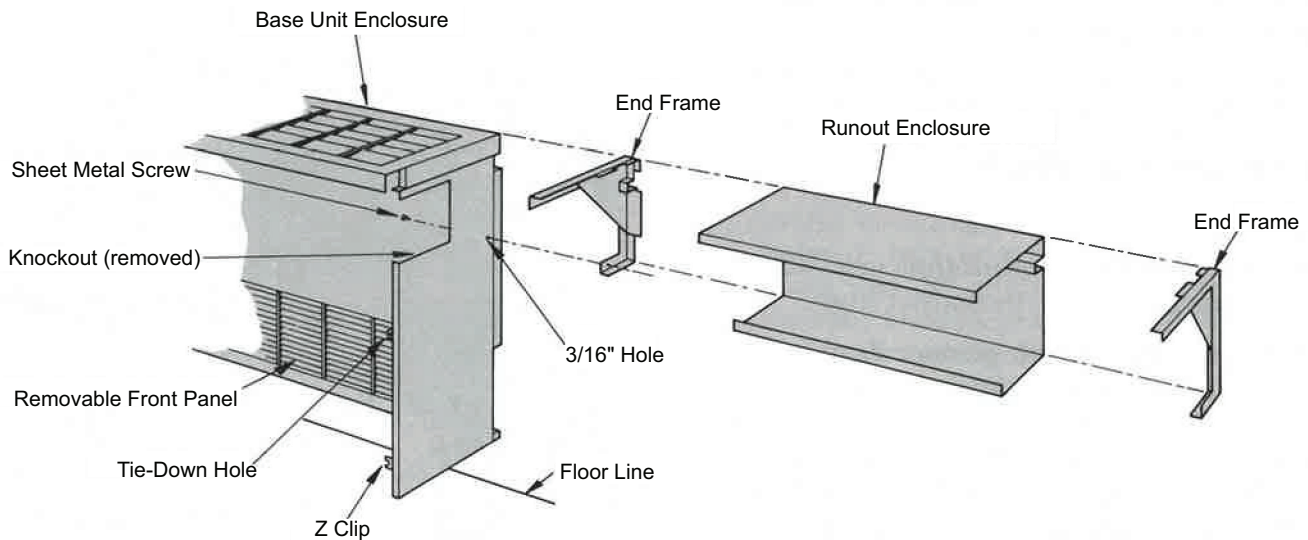

Fig. 12 — Enclosure with Single or Dual Runout
1. Drill two 3/16 in. holes for attaching runout. See Fig. 12.